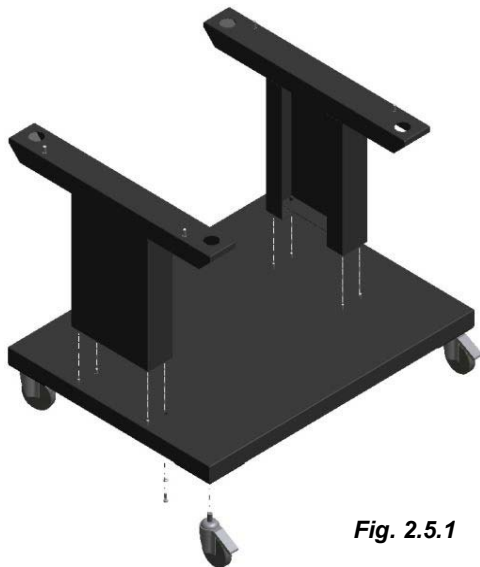

Fig. 2.5.1
- Mount the machine holding trolley as shown in fig. 2.5.1.